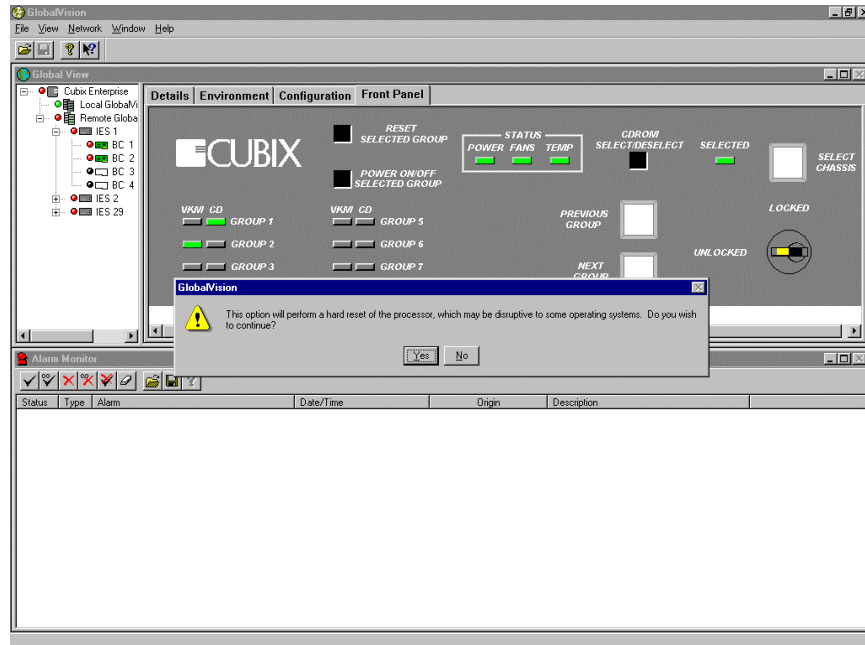

Figure 129 – Processor Reset Confirmation message box for DENSITY
2. The PROCESSOR RESET CONFIRMATION message box should appear. **THIS IS THE ONLY WARNING BEFORE THE COMPUTER BOARD IN THE SELECTED GROUP IS RESET.** Click on **YES** to reset the computer board. See Figure 129